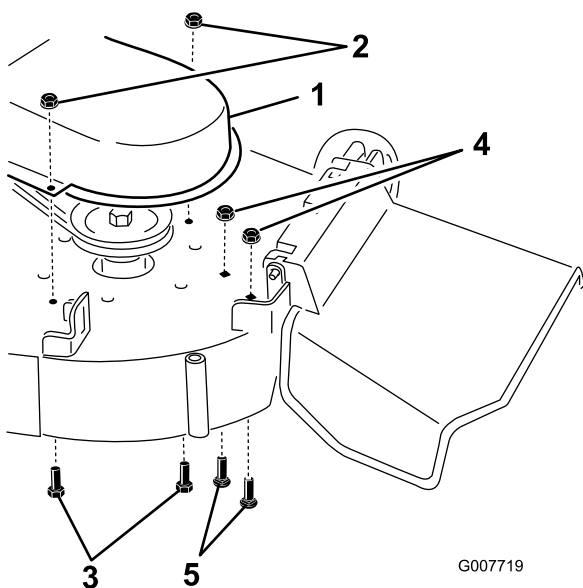

Figure 22
4. Remove the lock nuts installed at the holes shown in Figure 22. Retain all loose parts.